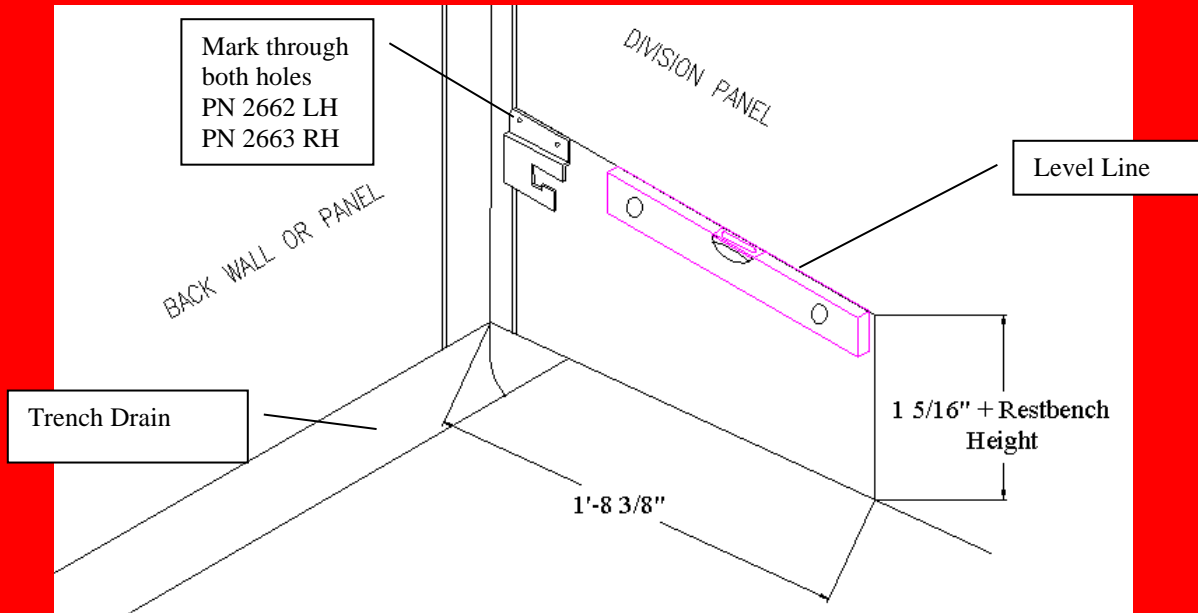

Figure 1.
1. Measure out from the back wall of the run a distance of $1'-8\frac{3}{8}"$ and make a mark on the division panel (or side wall). Then measure up vertically a height of $1\frac{5}{16}"$ plus the height of the rest bench (example: If you have a 6" high rest bench you would measure up $7-\frac{5}{16}"$). Make a mark on the panel (wall). Using a level, transfer the last mark you made to the rear of the Division Panel. Do this on both sides of the run. See Figure 1.